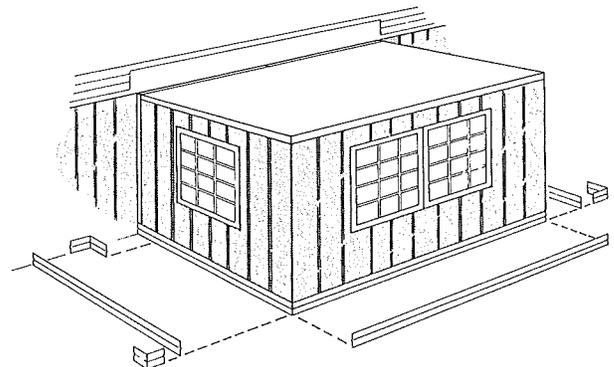

Figure 18
11. Carefully align the walls the floor edges and secure with the proper fasteners as illustrated in Figure 18.